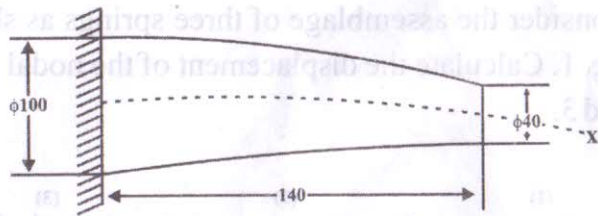

Fig. 2
12. A tapering round bar is fixed at one end and a tensile load of 1000 N is applied at the other end as shown in fig. 2. Take elastic modulus, $E=2 \times 10^5 \text{ MPa}$. Find the global stiffness matrix and displacements considering its as 4 elements.